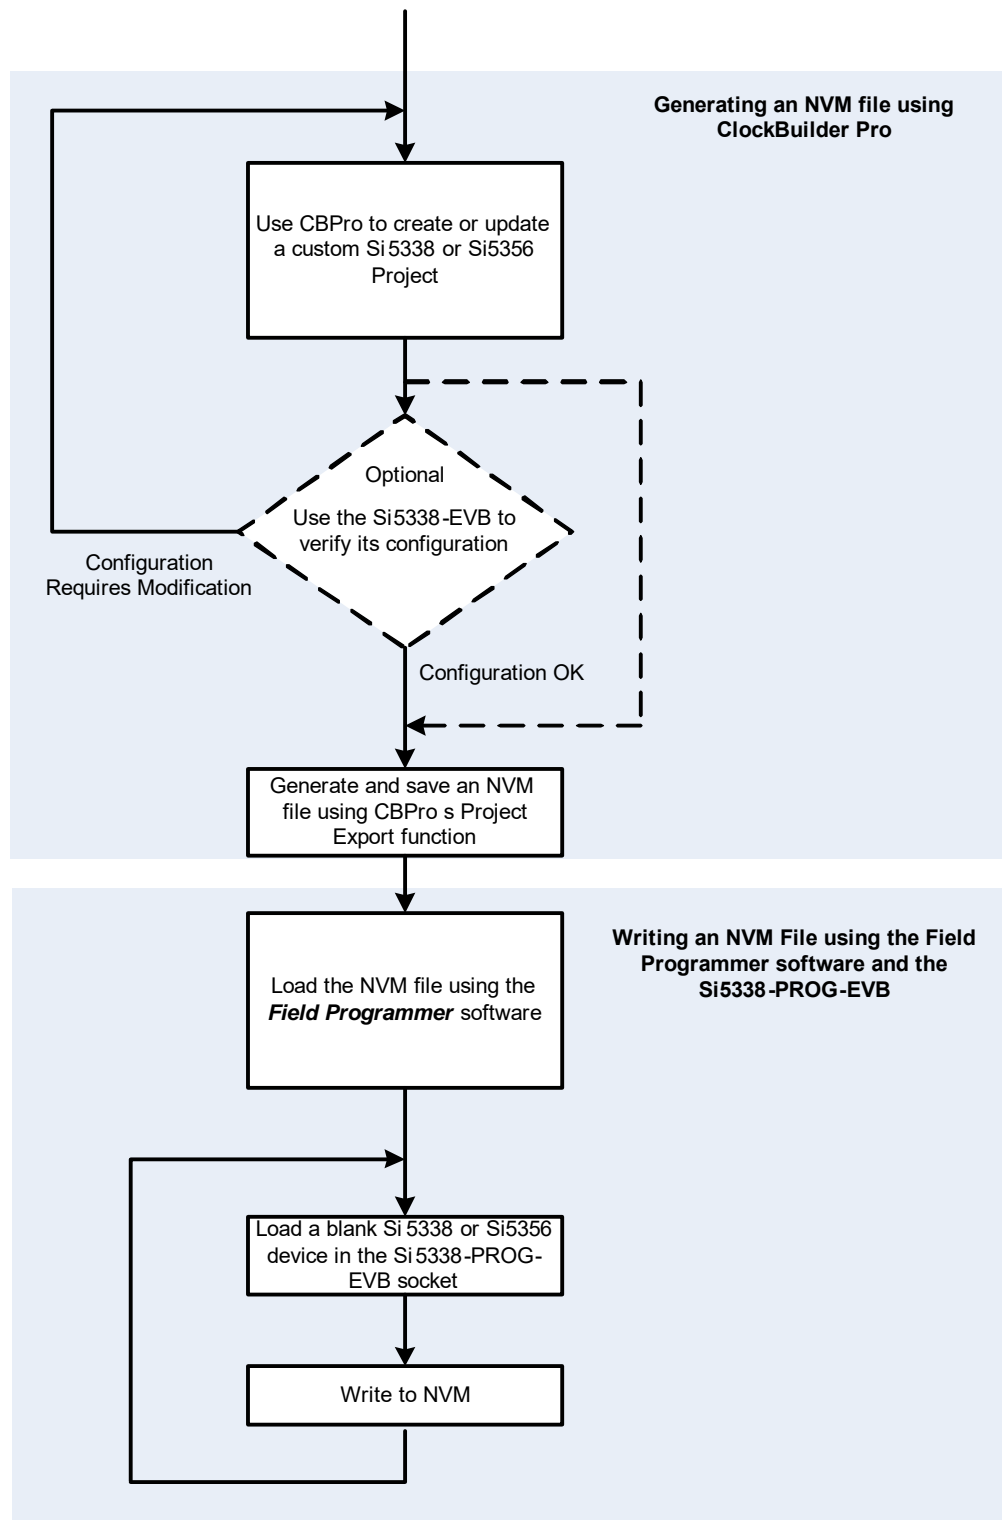

Figure 3. Generating and Writing an NVM File to the Device
The process of generating and writing an NVM file to the device is shown in Figure 3.
- Updated Figures 3 and 4.